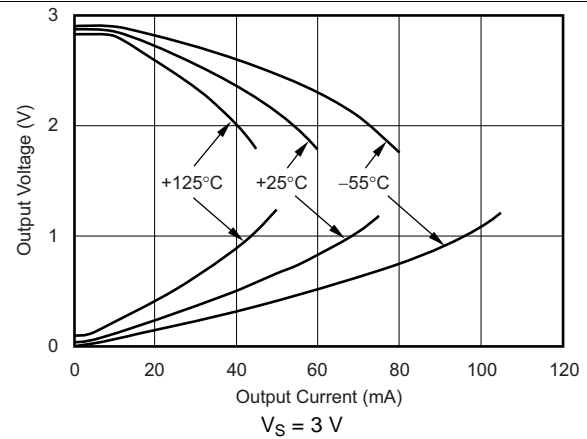
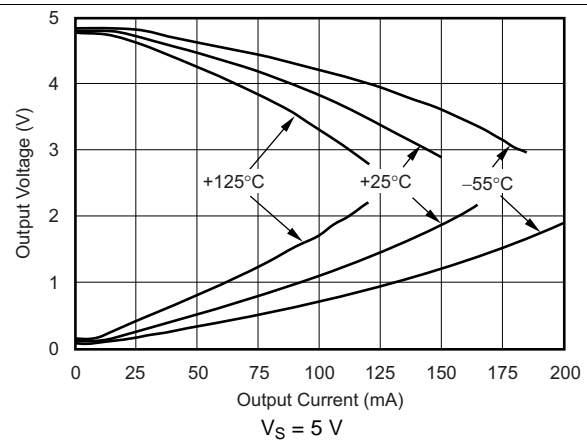
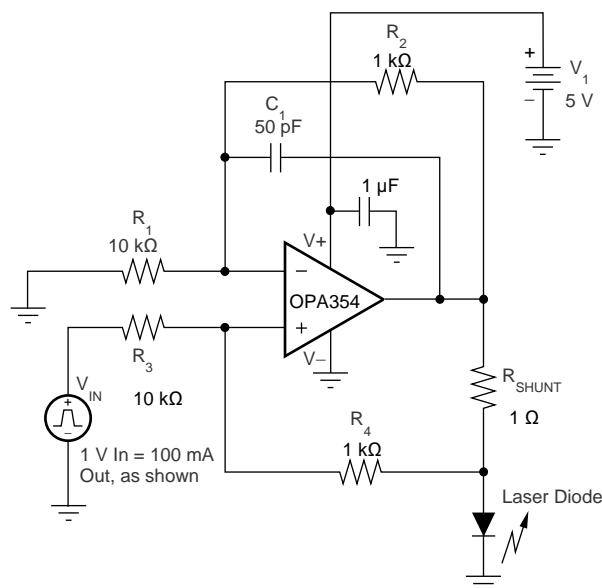
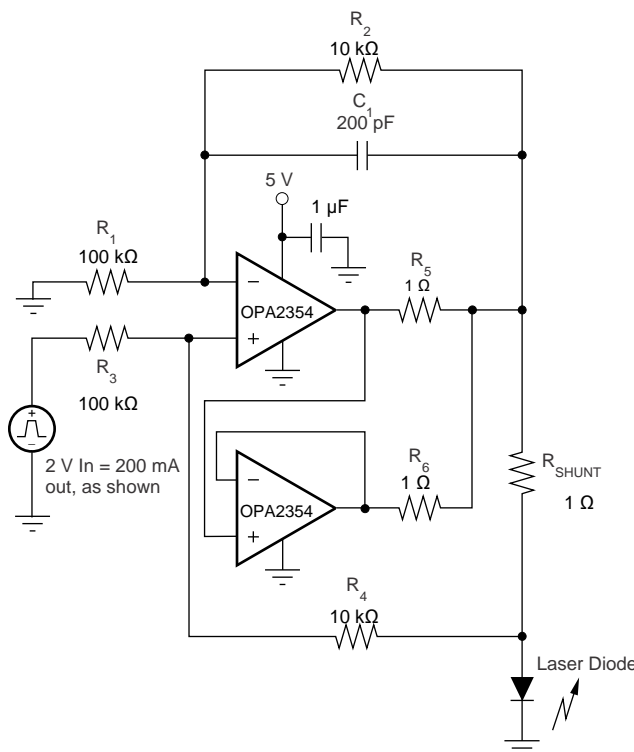

Figure 20. Output Voltage Swing vs Output Current
Figure 22. Output Voltage Swing vs Output Current
Figure 30. Laser Diode Driver
Figure 31. Parallel Operation
(1) See typical characteristic curves, *Output Voltage Swing vs Output Current* (Figure 20 and Figure 22).
(2) Specified by design.
A class AB output stage with common-source transistors achieves rail-to-rail output. For high-impedance loads ($> 200 \Omega$), the output voltage swing is typically 100 mV from the supply rails. With 10- Ω loads, a useful output swing is achieved while maintaining high open-loop gain. See the typical characteristic curves, Output Voltage Swing vs Output Current (Figure 20 and Figure 22).
The OPAx354 output stage supplies a continuous output current of ± 100 mA and yet provide approximately 2.7 V of output swing on a 5-V supply, as shown in Figure 30. For maximum reliability, TI does not recommend running a continuous DC current in excess of ± 100 mA. See the typical characteristic curves, Output Voltage Swing vs Output Current (Figure 20 and Figure 22). For supplying continuous output currents greater than ± 100 mA, the OPAx354 may be operated in parallel, as shown in Figure 31.